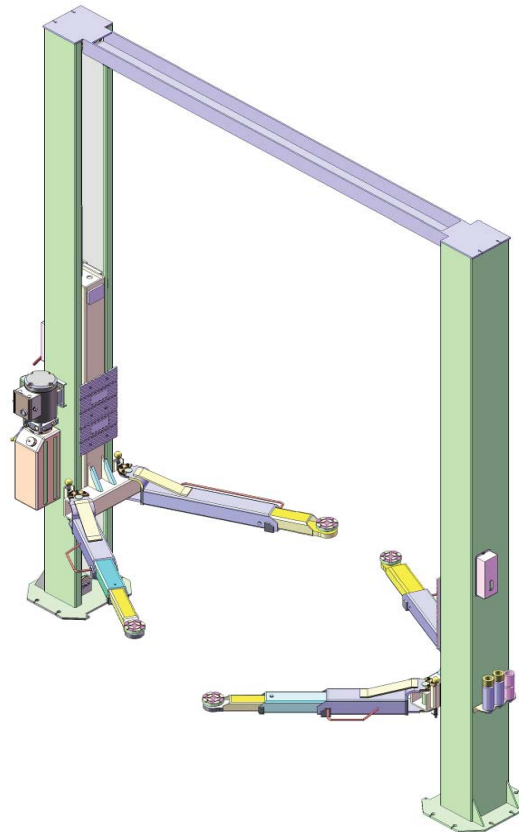
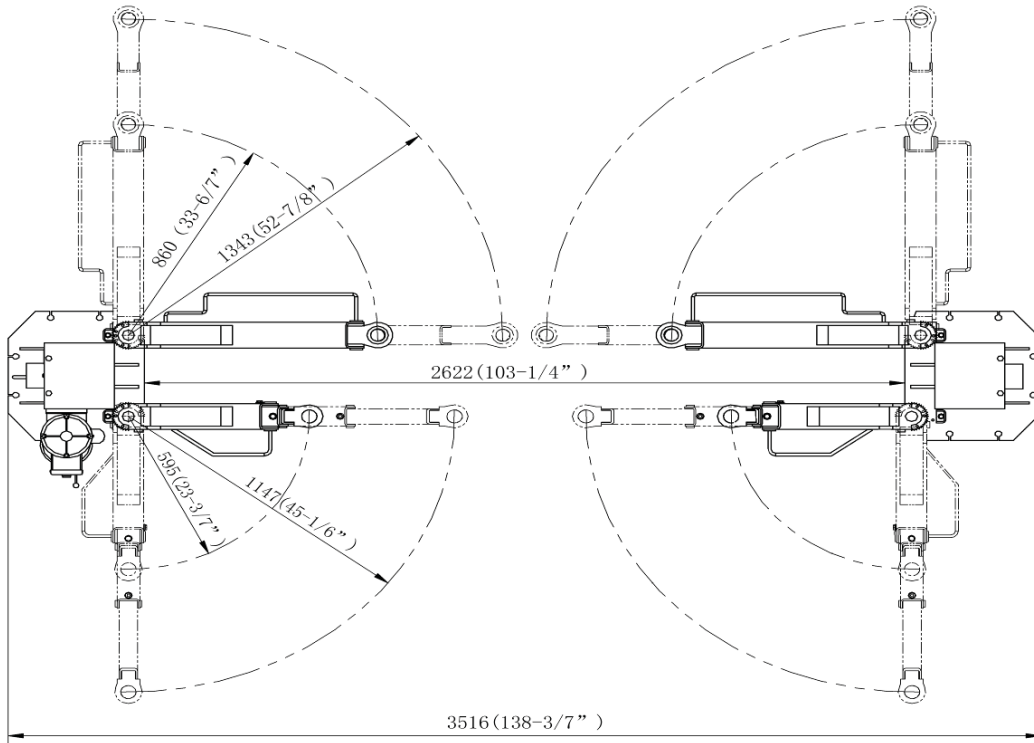

Fig. 1
Fig. 2
MODEL 30-20905A (See Fig. 1)
4. When connecting to the limit switch of Clearfloor two post lift, remove the terminal blocks 4 # on the control switch and A1 which marked on AC contactor first, and then connect two lines on limit switch to the terminal blocks 4# and A1. separately (See Fig.1 and Fig.2)